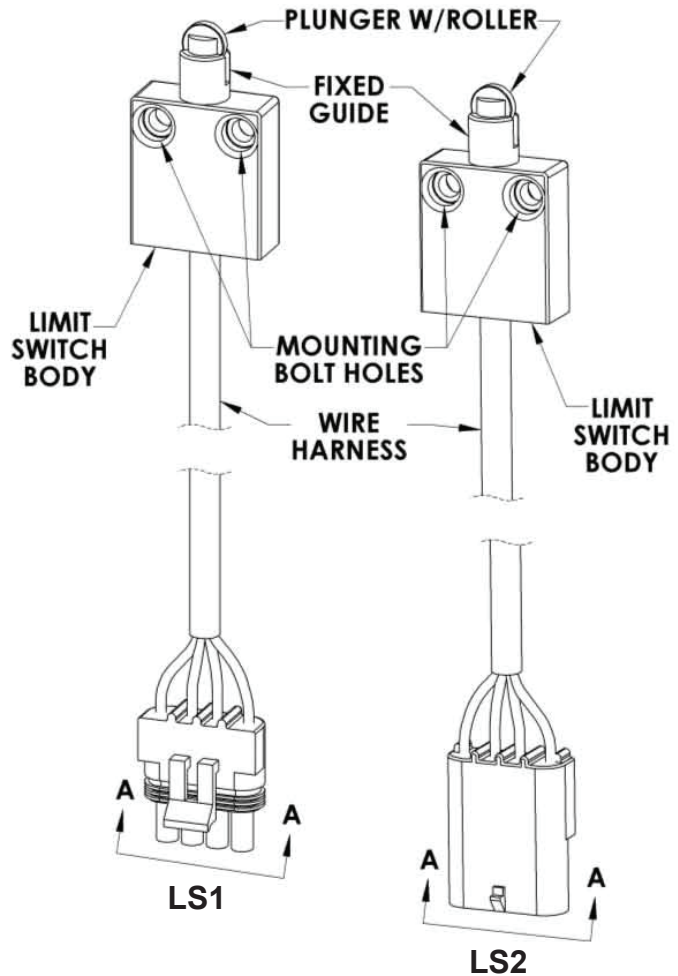

Figure 22
3. Remove LS1 and/or LS2 limit switch from carriage (see Figure 22).